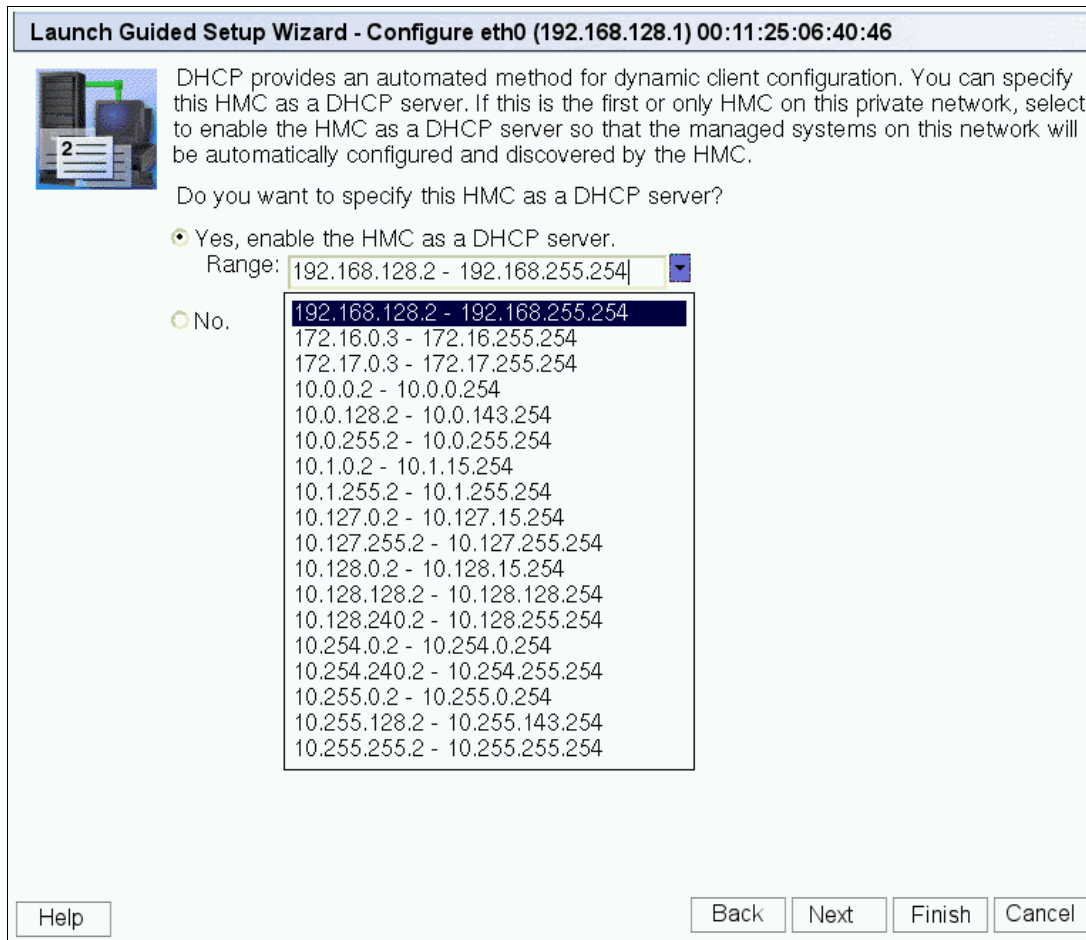

Figure 3-9 Configure eth0 DHCP
10. The Launch Guided Setup Wizard - Configure eth0 DHCP panel is displayed (see Figure 3-9). We have to define the HMC as a DHCP server so our managed system is assigned an IP address by the DHCP server.